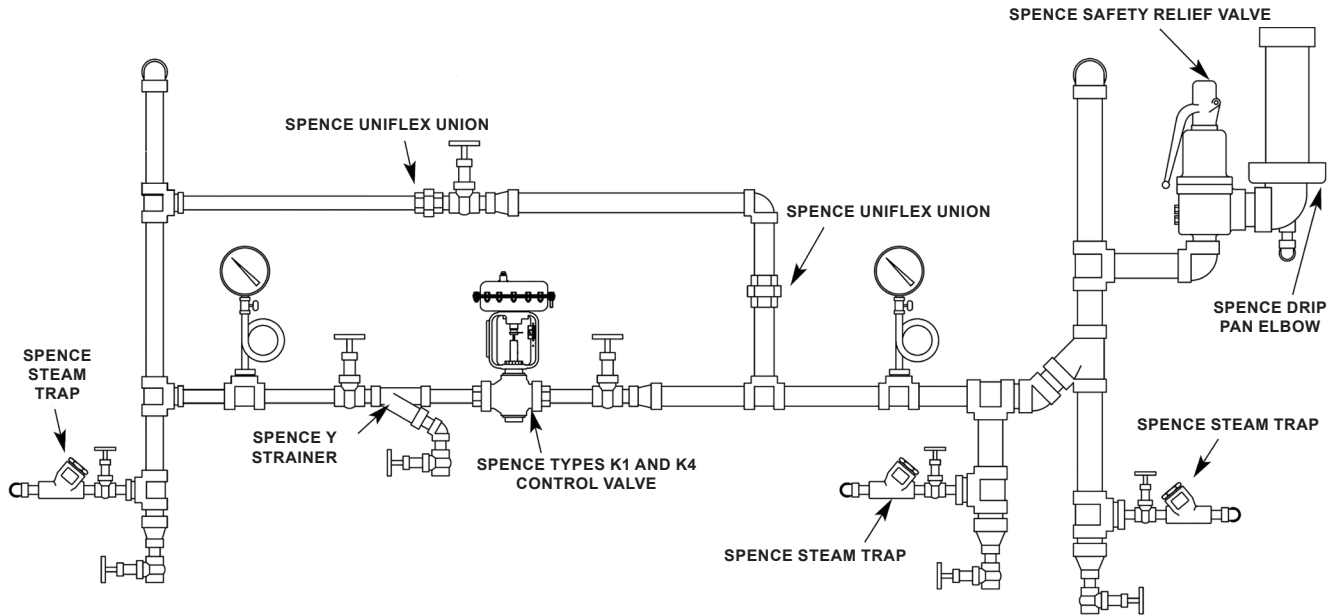

Figure 3. Types K1 and K4 Control Valve Recommended Installation for Steam Application
- Locate the valve in a straight run of horizontal pipe as shown in Figure 3. Mount the valve with the actuator in the upright position. Allow room for removal of the actuator.